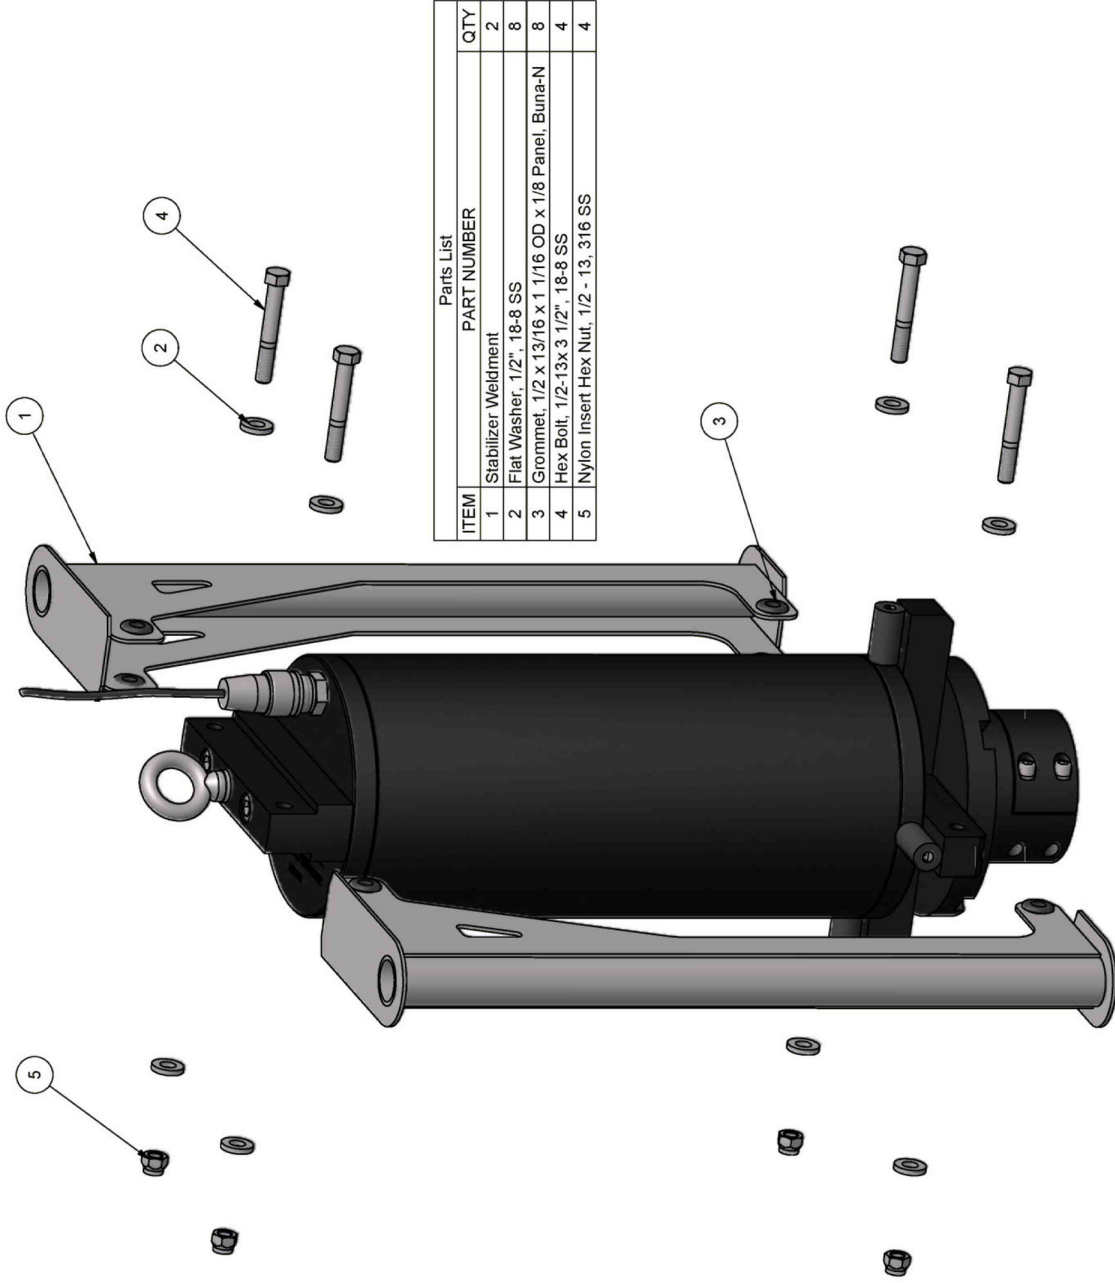

Figure A1.4 Attachment of Stabilizer Accessory to Power Head.
- Stabilizer Accessory (Figure A1.4-Figure A1.6) – an system for maintaining the vibracore and attached core tube in an approximately upright position when manual guidance by the operator is undesirable or unfeasible. The Stabilizer is not included in the standard system configuration and is ordered separately.